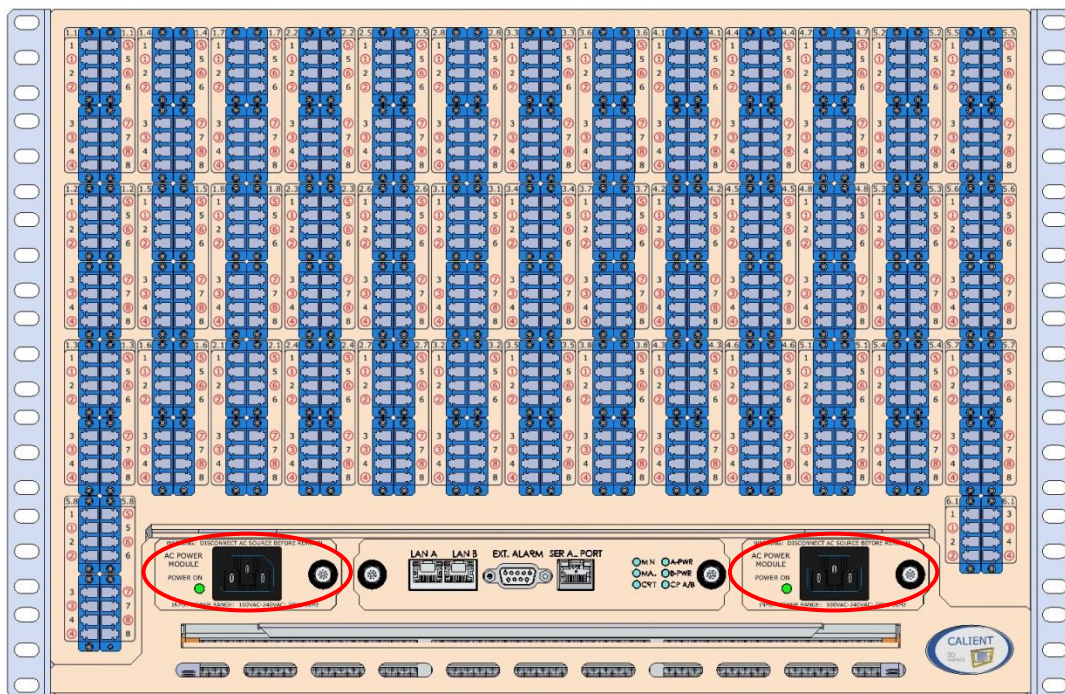
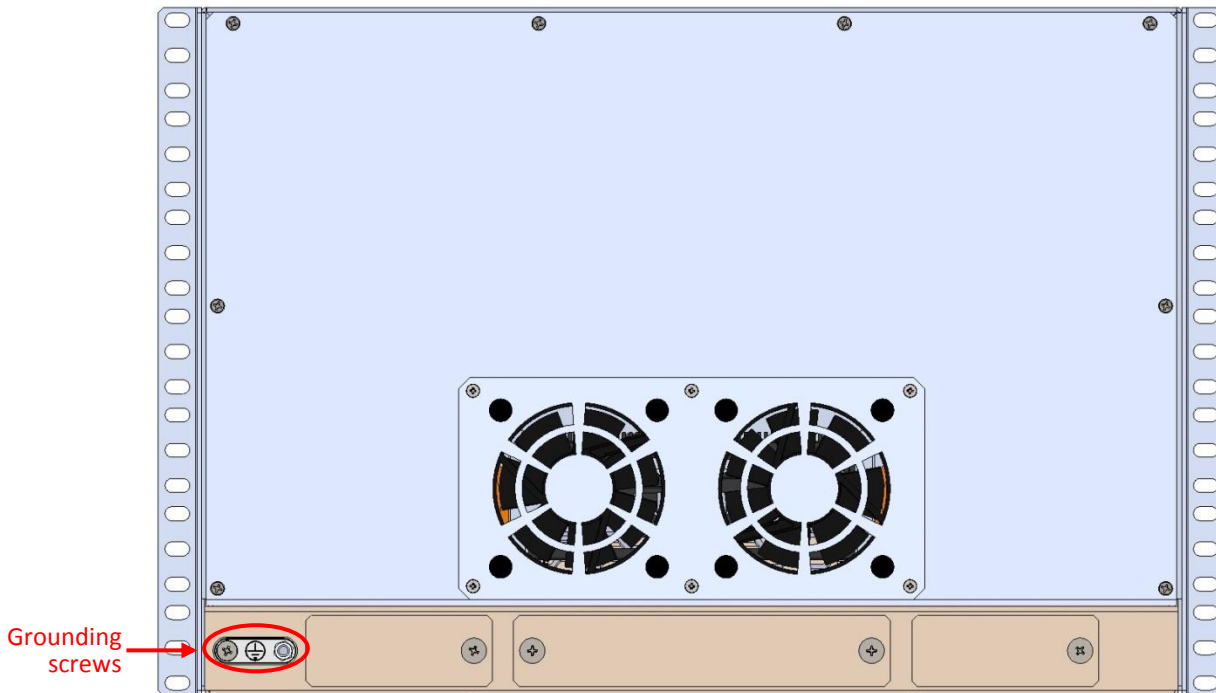
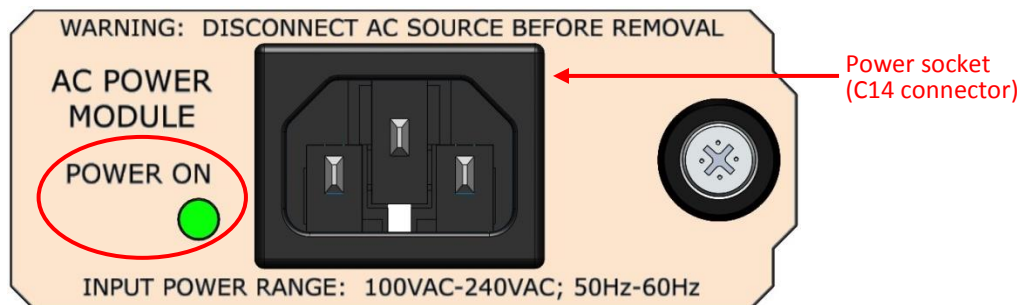
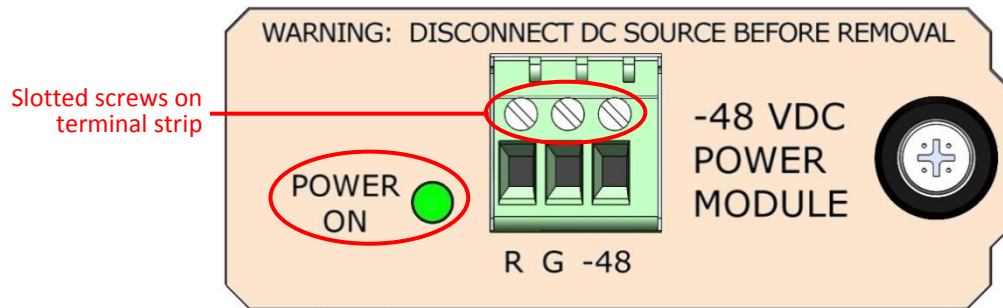

Figure 4 – S320 OCS Front Panel
Figure 5 – S320 OCS Rear Panel
Figure 7 – S320 OCS AC Power Module
Figure 8 – S320 OCS -48 VDC Power Module
This section describes the physical interfaces and connectors located on the front and rear panels of the S320 OCS. Figure 4 and Figure 5 show the front and rear panels of a system configured with the front AC power option. In this configuration, the AC Power Modules are installed in the front panel of the switch, and the rear-panel power module bays are filled with blanks.
The Fiber Interface is the optical interface for the S320 OCS. Input and output optical fibers are connected to this interface. The Fiber Interface is configured at the factory for the connector type and mode of operation specified by the user. As shown in Figure 4, a standard S320 OCS Fiber Interface has an array of 320 input and 320 output LC-UPC bulkhead connectors.
The operational status LEDs for the S320 OCS are positioned at the right of the center panel located at the bottom-front of the chassis, just below the bulkhead connectors and above the fan filter tray (see Figure 4). Six (6) LED indicators (Figure 6) visually alert the user of system-level fault conditions. These LEDs are summarized in Table 1.
LEDs indicating power source status are located at the right of the center panel (Figure 6) located at the bottom-front of the switch (Figure 4). In addition, each power module has an LED located at the lower-left of the module faceplate (Figure 7 and Figure 8) that indicates whether the module is on (LED is lit) or off (LED is unlit).
The S320 OCS chassis is equipped with four (4) power source inputs—two (2) on the front and two (2) on the rear—to accommodate front or rear installation of the power modules, depending on customer preference. Initially, the power modules are installed at the factory in the customer-specified (front or rear) power source inputs. Blank patch panels are placed over the unused inputs to protect the inside of the switch from contamination by dust and other particulate matter. Figure 4 and Figure 5 show a switch configured with front power source inputs (populated with AC power modules) and rear patch panels.
Power modules are field-replaceable. There is also an AC power supply option (Table 3), external to the switch, that can be used in conjunction with the -48 VDC module. The AC power supply has a nominal DC output of -48 VDC and only connects to the -48 VDC input of the power module (Figure 8).
- **Miscellaneous:** Type 12-24 rack-mounting screws (12), slotted screwdriver (1) for terminal strip screws on -48 VDC power modules (Figure 8).